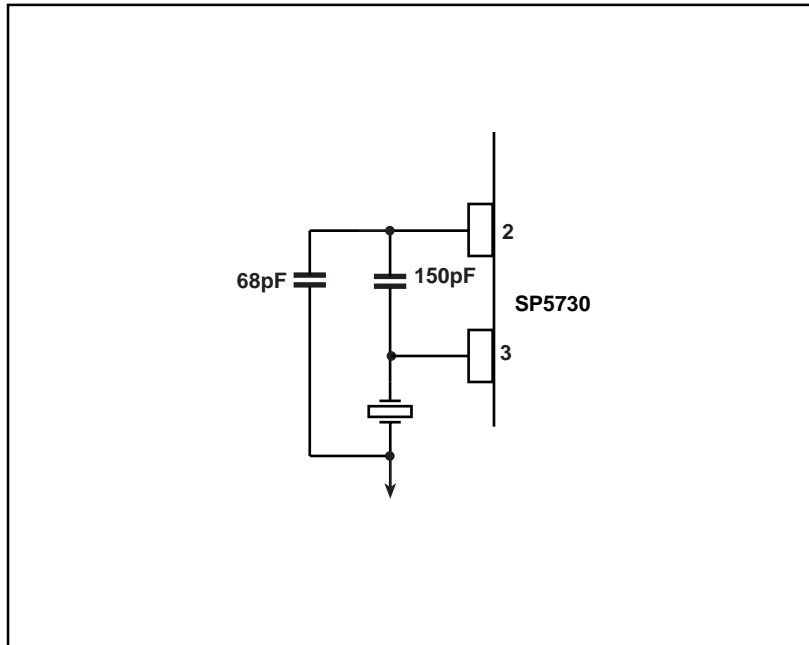

Figure 3 XTAL oscillator application
- R4-R0 : Reference division ratio select (see Figure 3)